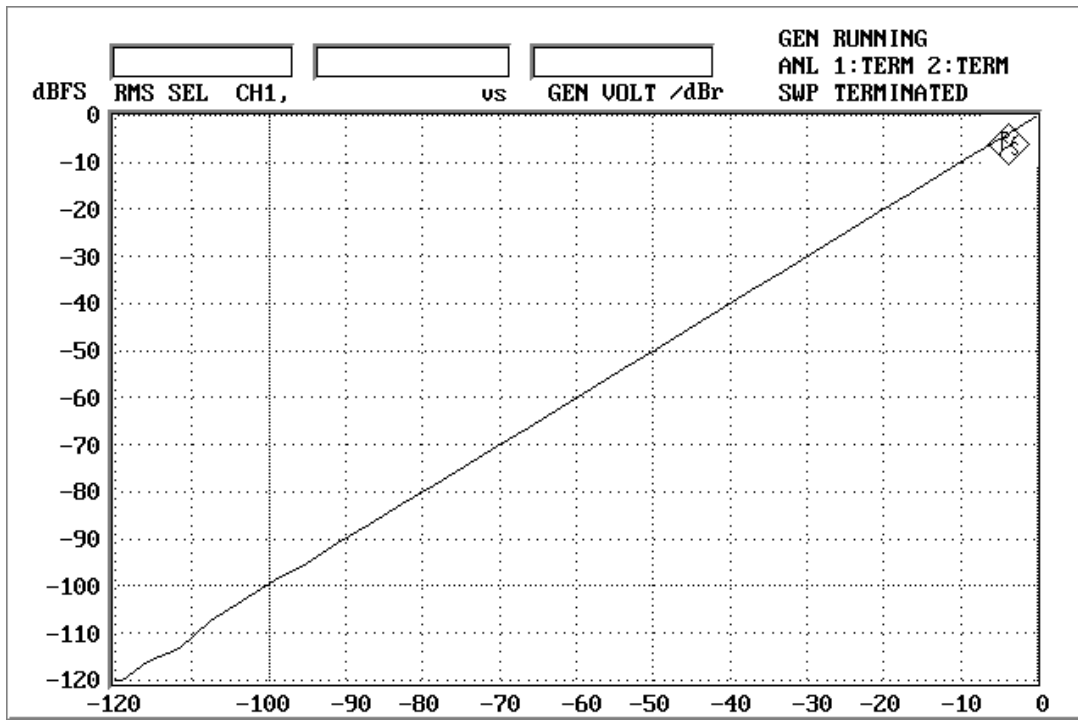

Figure 12. Linearity (fs=96kHz; fin=1kHz)
- Figure 12. Linearity (fin=1kHz)